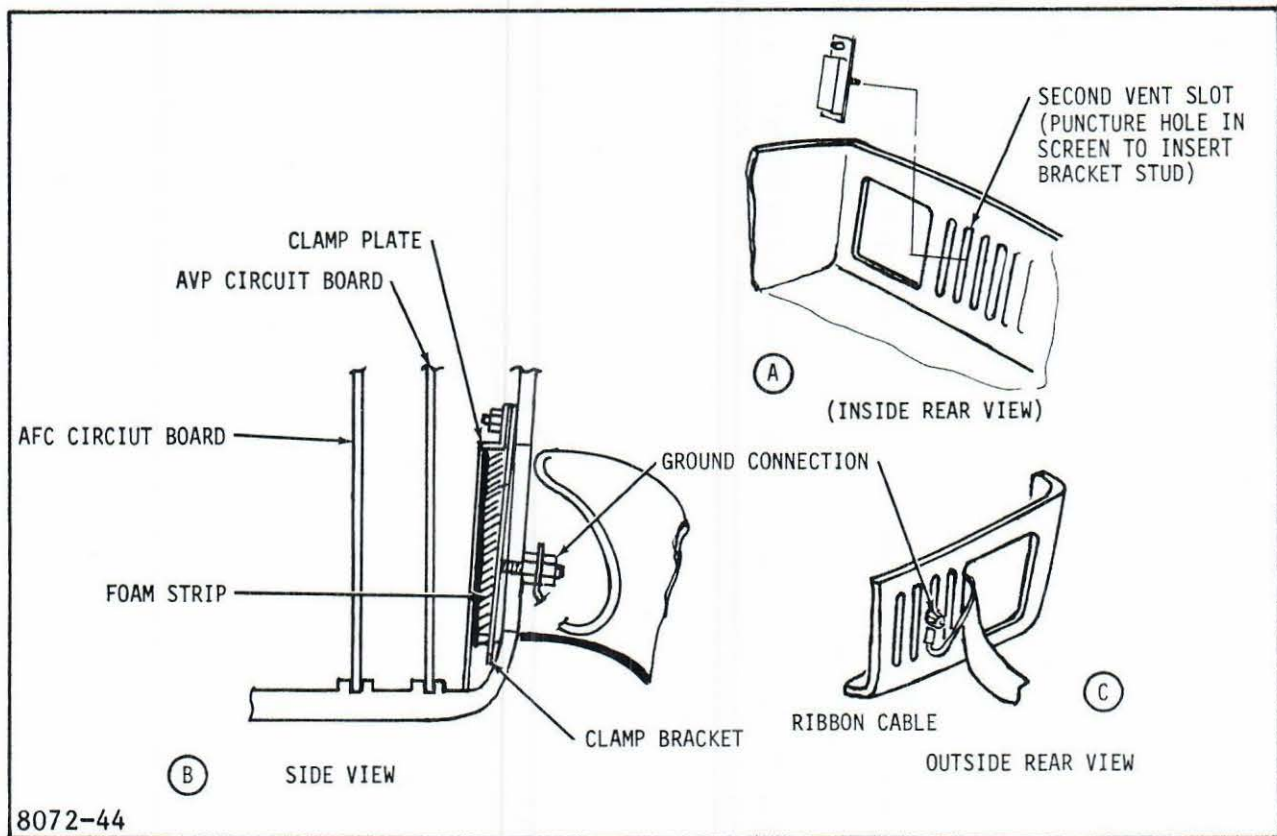

Figure 7-5. Cable Clamp Bracket Installation
6. Mount the cable clamp bracket on the inside of the housing as shown in figure 7-5. The threaded stud on the bracket is inserted through the screen and second vent slot on the left side of the housing. It will be necessary to puncture a hole in the metallic screen to insert the bracket stud. Attach a starwasher nut to secure the clamp bracket in place.
9. Attach the cable to the clamp bracket with the clamp plate and star-washer nut. Attach ribbon cable ground wire to clamp bracket stud with star-washer nut. See figure 7-5.